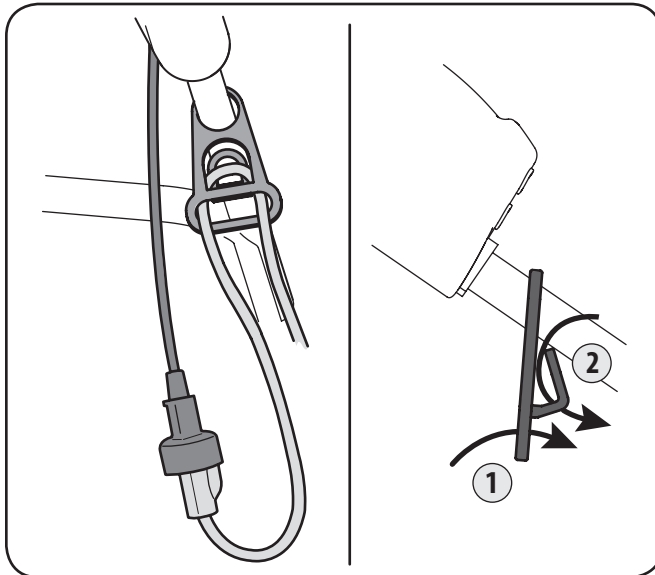

Figure 3-6
2. Push the loop through the bottom hole in the cord retainer. See Fig. 3-6.
3. Position the loop over the clip found on the cord retainer and pull down until the cord fits snugly into the clip. See Fig. 3-6.